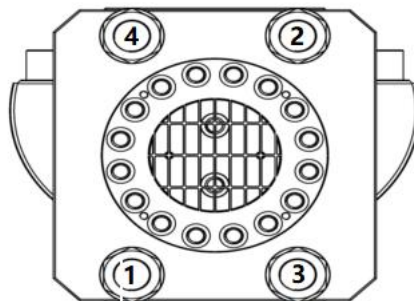

Figure 7-4 Tie Rod Tensioner
- 7.2.4 Loosen each small jack screw on each tensioner. Now move to the next "Superbolf tensioner diagonally across the extrusion cylinder, and repeat the procedure. It will require four full loosening circles around each of the tie rod tensioners to completely loosen the jackscrews to loosen the tensioners. See Figure 7-4 below for a pictorial description.
7.2.22 Adjust the Extrusion Cylinder Support Screw (refer back to Figure 7-4) until it seats against the large Support Block. Tighten the jam nut.